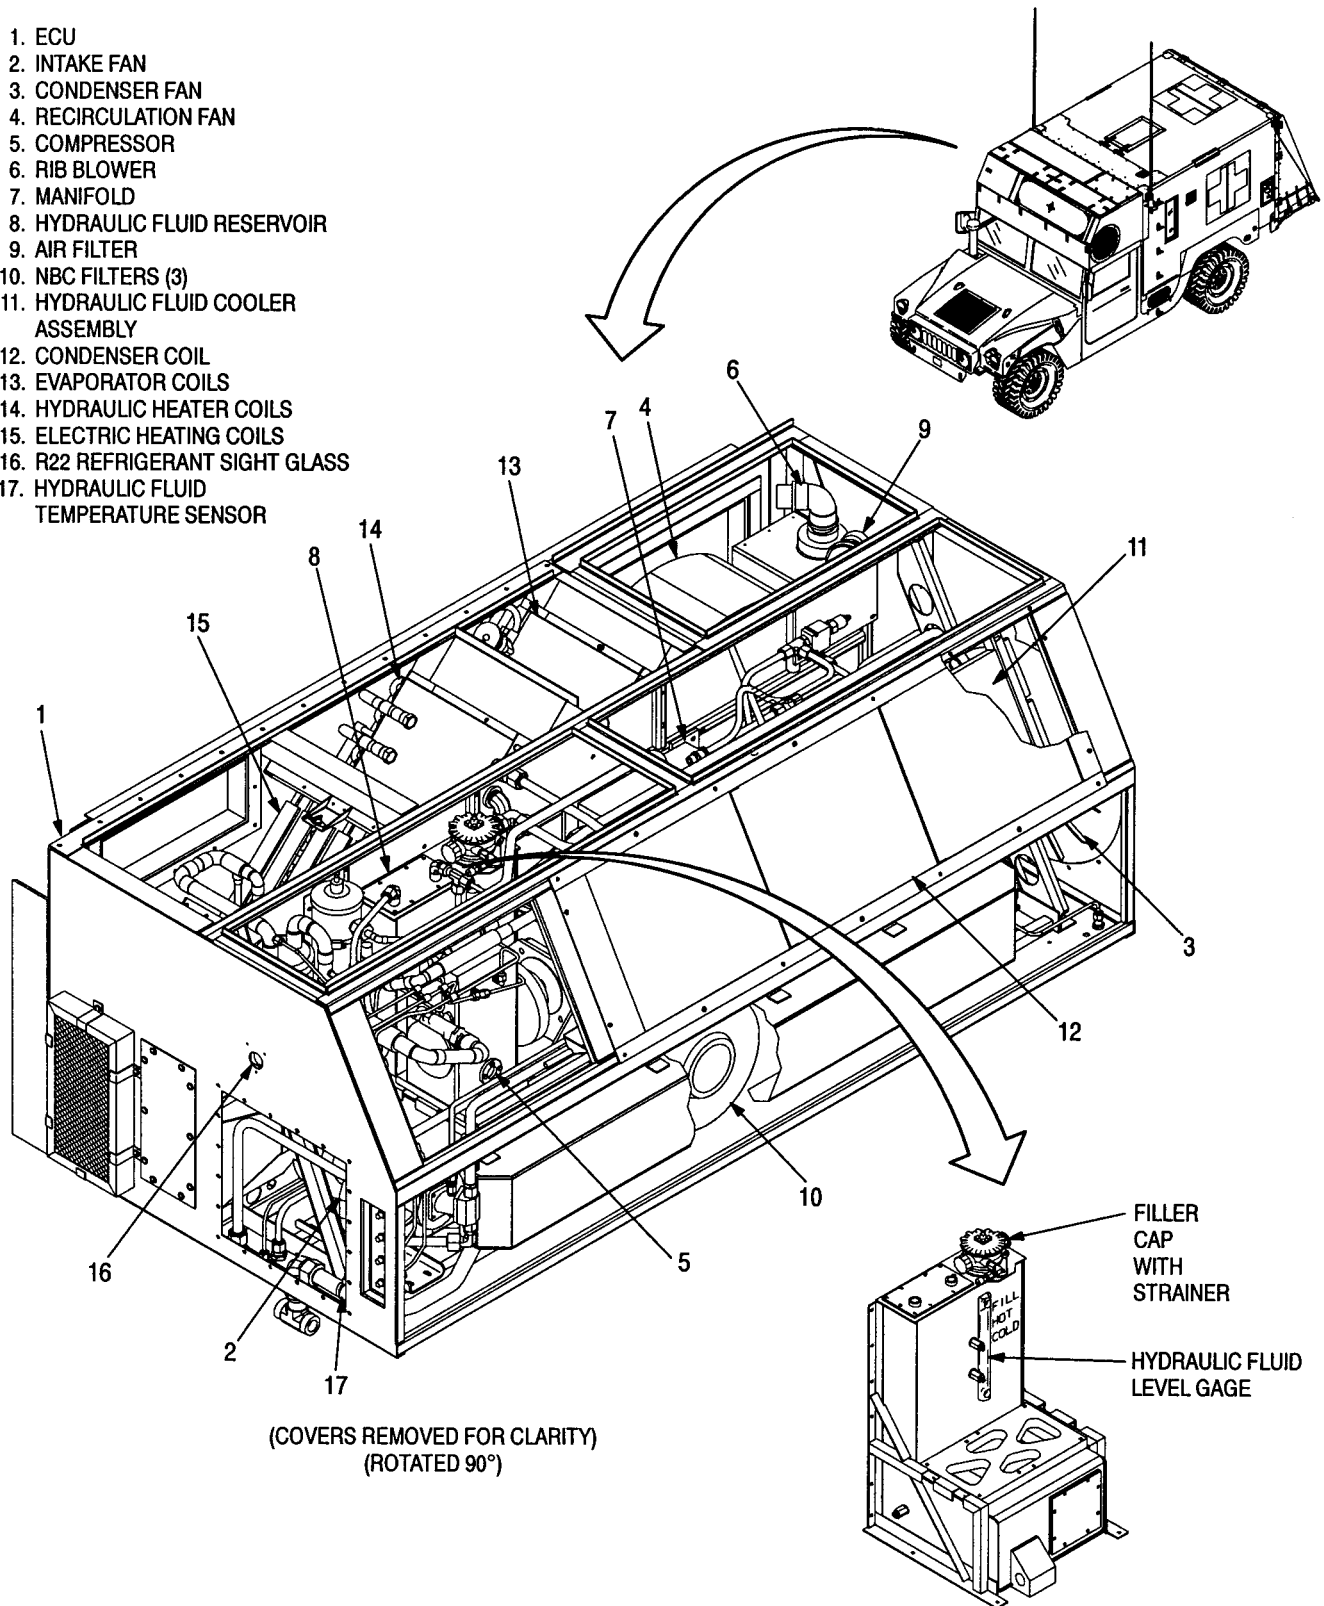

Figure 1-4. ECU
- (5) Rear Control Panel (RCP) 1A4A4. Contains controls and indicators for CBPS deployment and operation. Controls heating and cooling temperatures within the CBPS through the temperature control unit.
- (6) Power Mode Switch 1A4A4S1. Selects either ECV or an external power source to operate the CBPS.
- (7) Forward Light Box Assembly 1A4A5. Lights the forward LMS crew area.
- (8) Control Box Assembly 1A4A18. Allows communication between the LMS crew and the cab crew. Temperature control knob allows the LMS crew control of internal temperature during mobile mode.
- (9) Relay Box 1A4A17. Located in passenger side MOPP gear storage box, supplies +24 Vdc to the CBPS.
- d. ECU (figure 1-4).
- (1) ECU. Contains the components that provide the venting, heating, cooling, and air filtration equipment. Also provides the air needed to inflate the air beams and to generate the over pressure (positive pressure) inside the CBPS.
- (2) Intake Fan (Vent/NBC). Hydraulic driven fan used to draw outside air into the ECU.
- (3) Condenser Fan. Hydraulic driven fan used to cool the condenser coil and hydraulic fluid when the Environmental Support System (ESS) mode selector switch on the Electronic Control Console (ECC) is set to COOL or VENT.
- (4) Recirculation Fan. Draws in air from the NBC filters and from the return vent duct on the driver side of the LMS. The air is then directed towards the cooling/heating coils.
- (5) Compressor. Consists of an air conditioner compressor used to cool the CBPS when the ESS mode selector switch on the ECC is set to COOL.
- (6) Rib Blower. Consists of a hydraulic driven ring compressor fan used to supply air to the air beams.
- (7) Manifold. Directs and controls the pressure and flow of the hydraulic fluid through ports to the components of the ECU as selected by the controls on the ECC.
- (8) Hydraulic Fluid Reservoir. Holds 13 gallons of the system's 22 gallons of hydraulic fluid. A fluid level gage on the front of the reservoir provides a visual indication of the hydraulic fluid level. The reservoir also contains a strainer in the fill cap that filters the hydraulic fluid as it enters the reservoir.